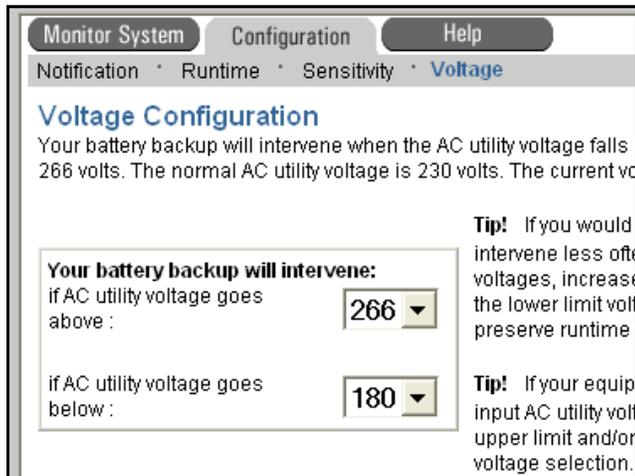

FIG. 6
- b. In Australia, make sure that 266 is selected from the drop down box next to “If AC utility voltage goes above” and that 180 is selected from the drop down box next to “If AC utility voltage goes below”. See FIG. 6.